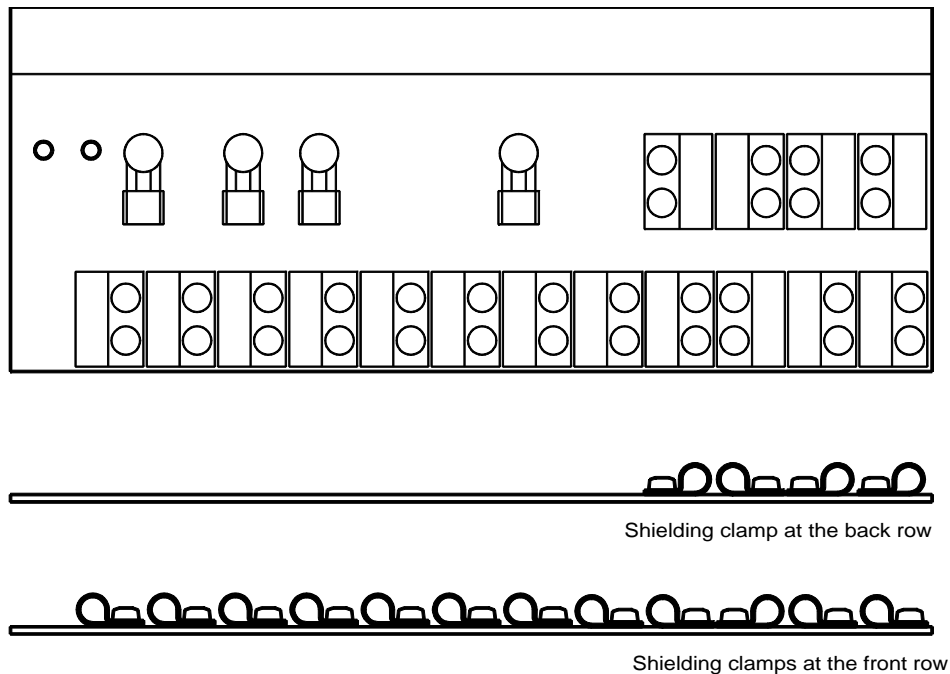

Fig. 22–1 Ground Strip with Shielding Clamps
*The orientation of the shielding clamps shall be according to Figure 22–1. If the clamp is positioned at the wrong side, remove the clamp and fit it such that it is positioned correctly.*